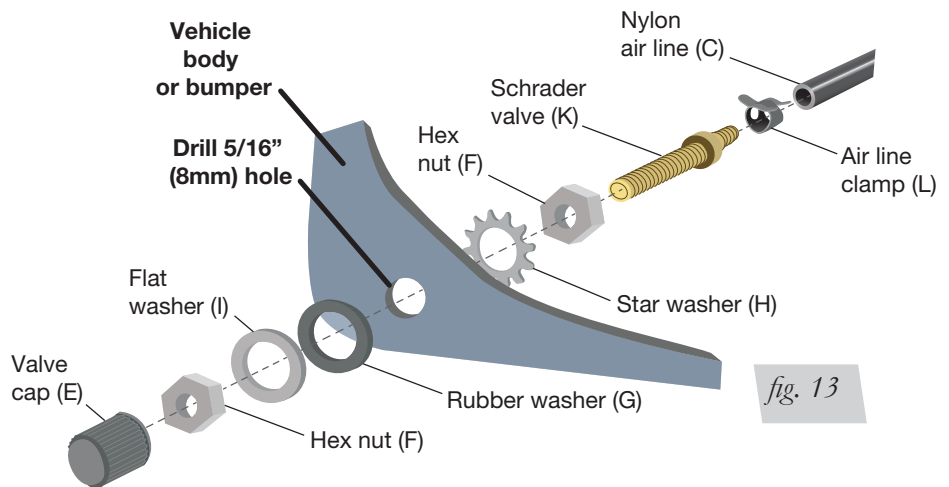

fig. 13
4. Drill a 5/16" (8mm) hole for the Schrader valve (K) and mount as shown (Fig. 13). Install the air line on the Schrader valve first. The rubber washer (G) serves as an outside weather seal.